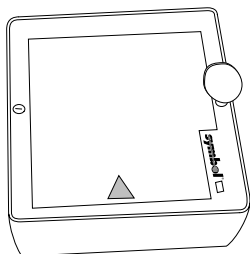

Figure 4-2. Removing Window from an LS 5800
- Insert a coin into the large screw heads on the front of the scanner and turn counter-clockwise (Figure 4-2).